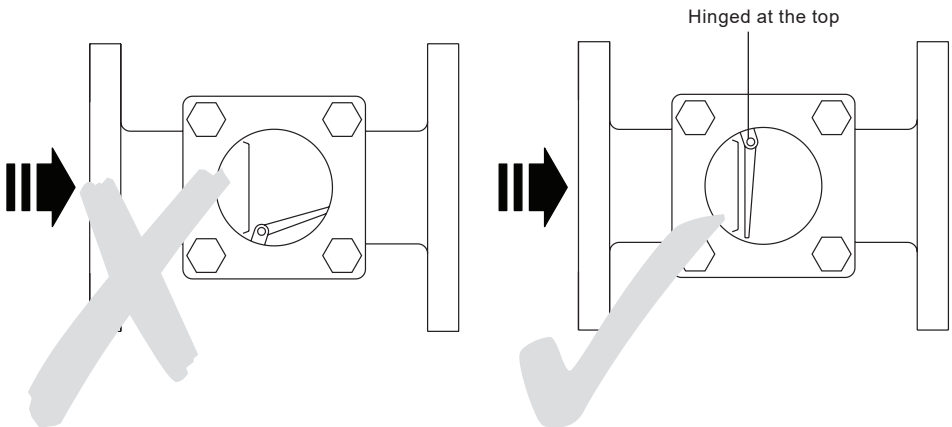

Fig. 3
**Warning:** when the optional visual flow indicator flap is requested for horizontal flow applications the hinge must be placed uppermost otherwise it will not work for the purpose intended - See Figure 3. Where the trap is a blast discharge type e.g. thermodynamic, the sight glass must be fitted at least 1 m (3 ft) from the trap. This is to ensure that the glass is not subjected to thermal shock or pressure. Ensure access is available for maintenance purposes.